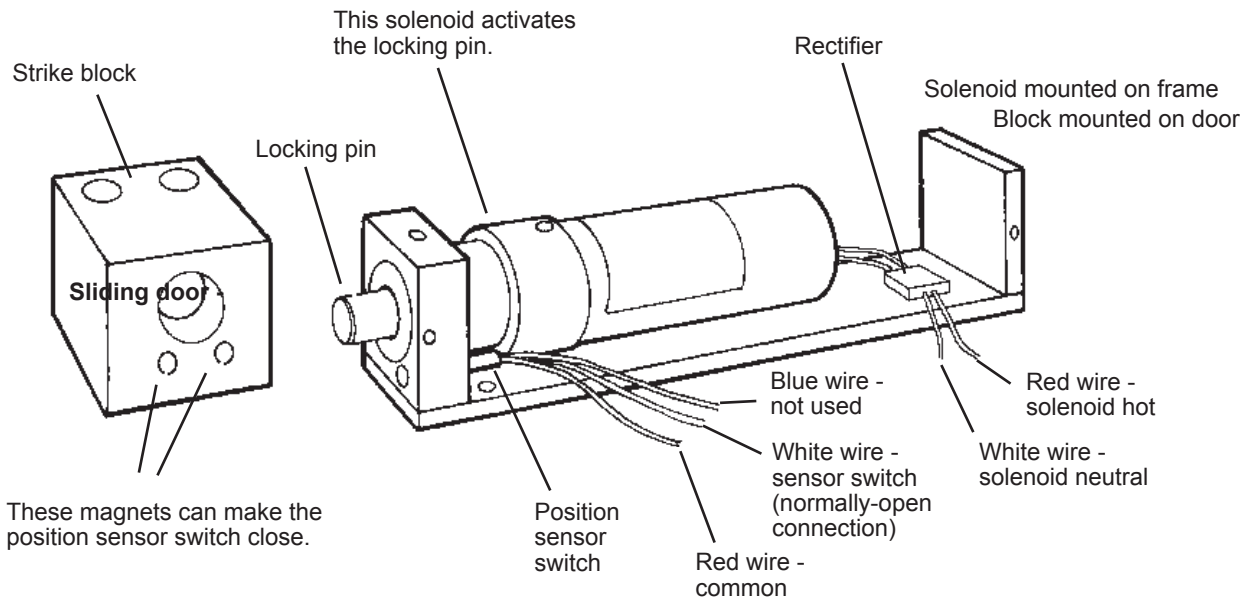

Fig. 2-9 – Interlock Unit
- Figure 2-9 shows one of the interlock units. The locking pin is moved in and out by a solenoid. Below the locking pin, the unit has a position sensing switch. The unit also includes a matching strike block.